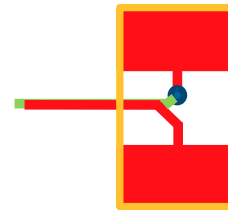

FIGURE 78. RECOMMENDED LAYOUT PATTERN FOR CURRENT SENSE TRACES REGULATOR
13. The current sensing traces must be laid out very carefully because they carry tiny signals with only tens of mV. For the current sensing traces close to the power sense resistor (RSENx), the layout pattern shown in Figure 78 is recommended. Assuming the RSENx is placed in the top layer (red), route one current sense connection from the middle of one RSENx pad in the top layer under the resistor (red trace). For the other current sensing trace, from the middle of the other pad on RSENx in top layer, after a short distance, via down to the second layer and route this trace right under the top layer current sense trace.